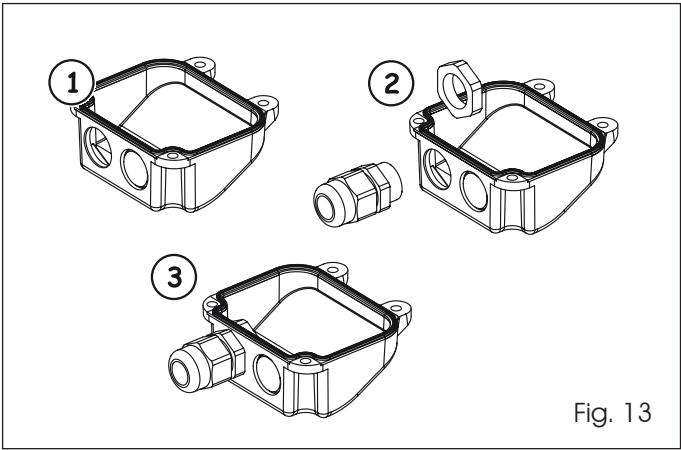

Fig. 13
- 1. Open one of the pre-drilled holes in the terminal block cover, see Fig.13.